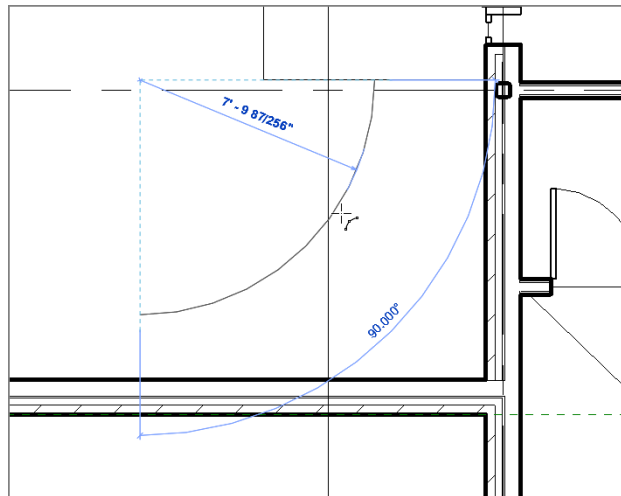

FIGURE 10.37: Picking the third point to form the arc. It will be tangent upon the first two points you picked.
7. To form the arc, move your cursor to the right until the radius snaps into place. When it does, pick the point as shown in Figure 10.37.